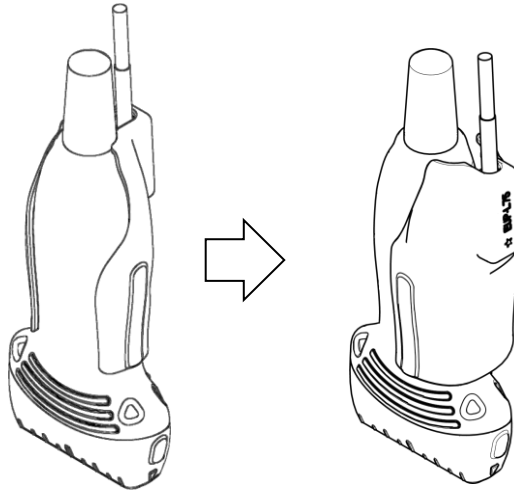

Fig.10 How to release the Magnetic sensor attachment from the probe
- 1) Turn around the magnetic sensor attachment and remove it from the probe as shown in Fig.10.